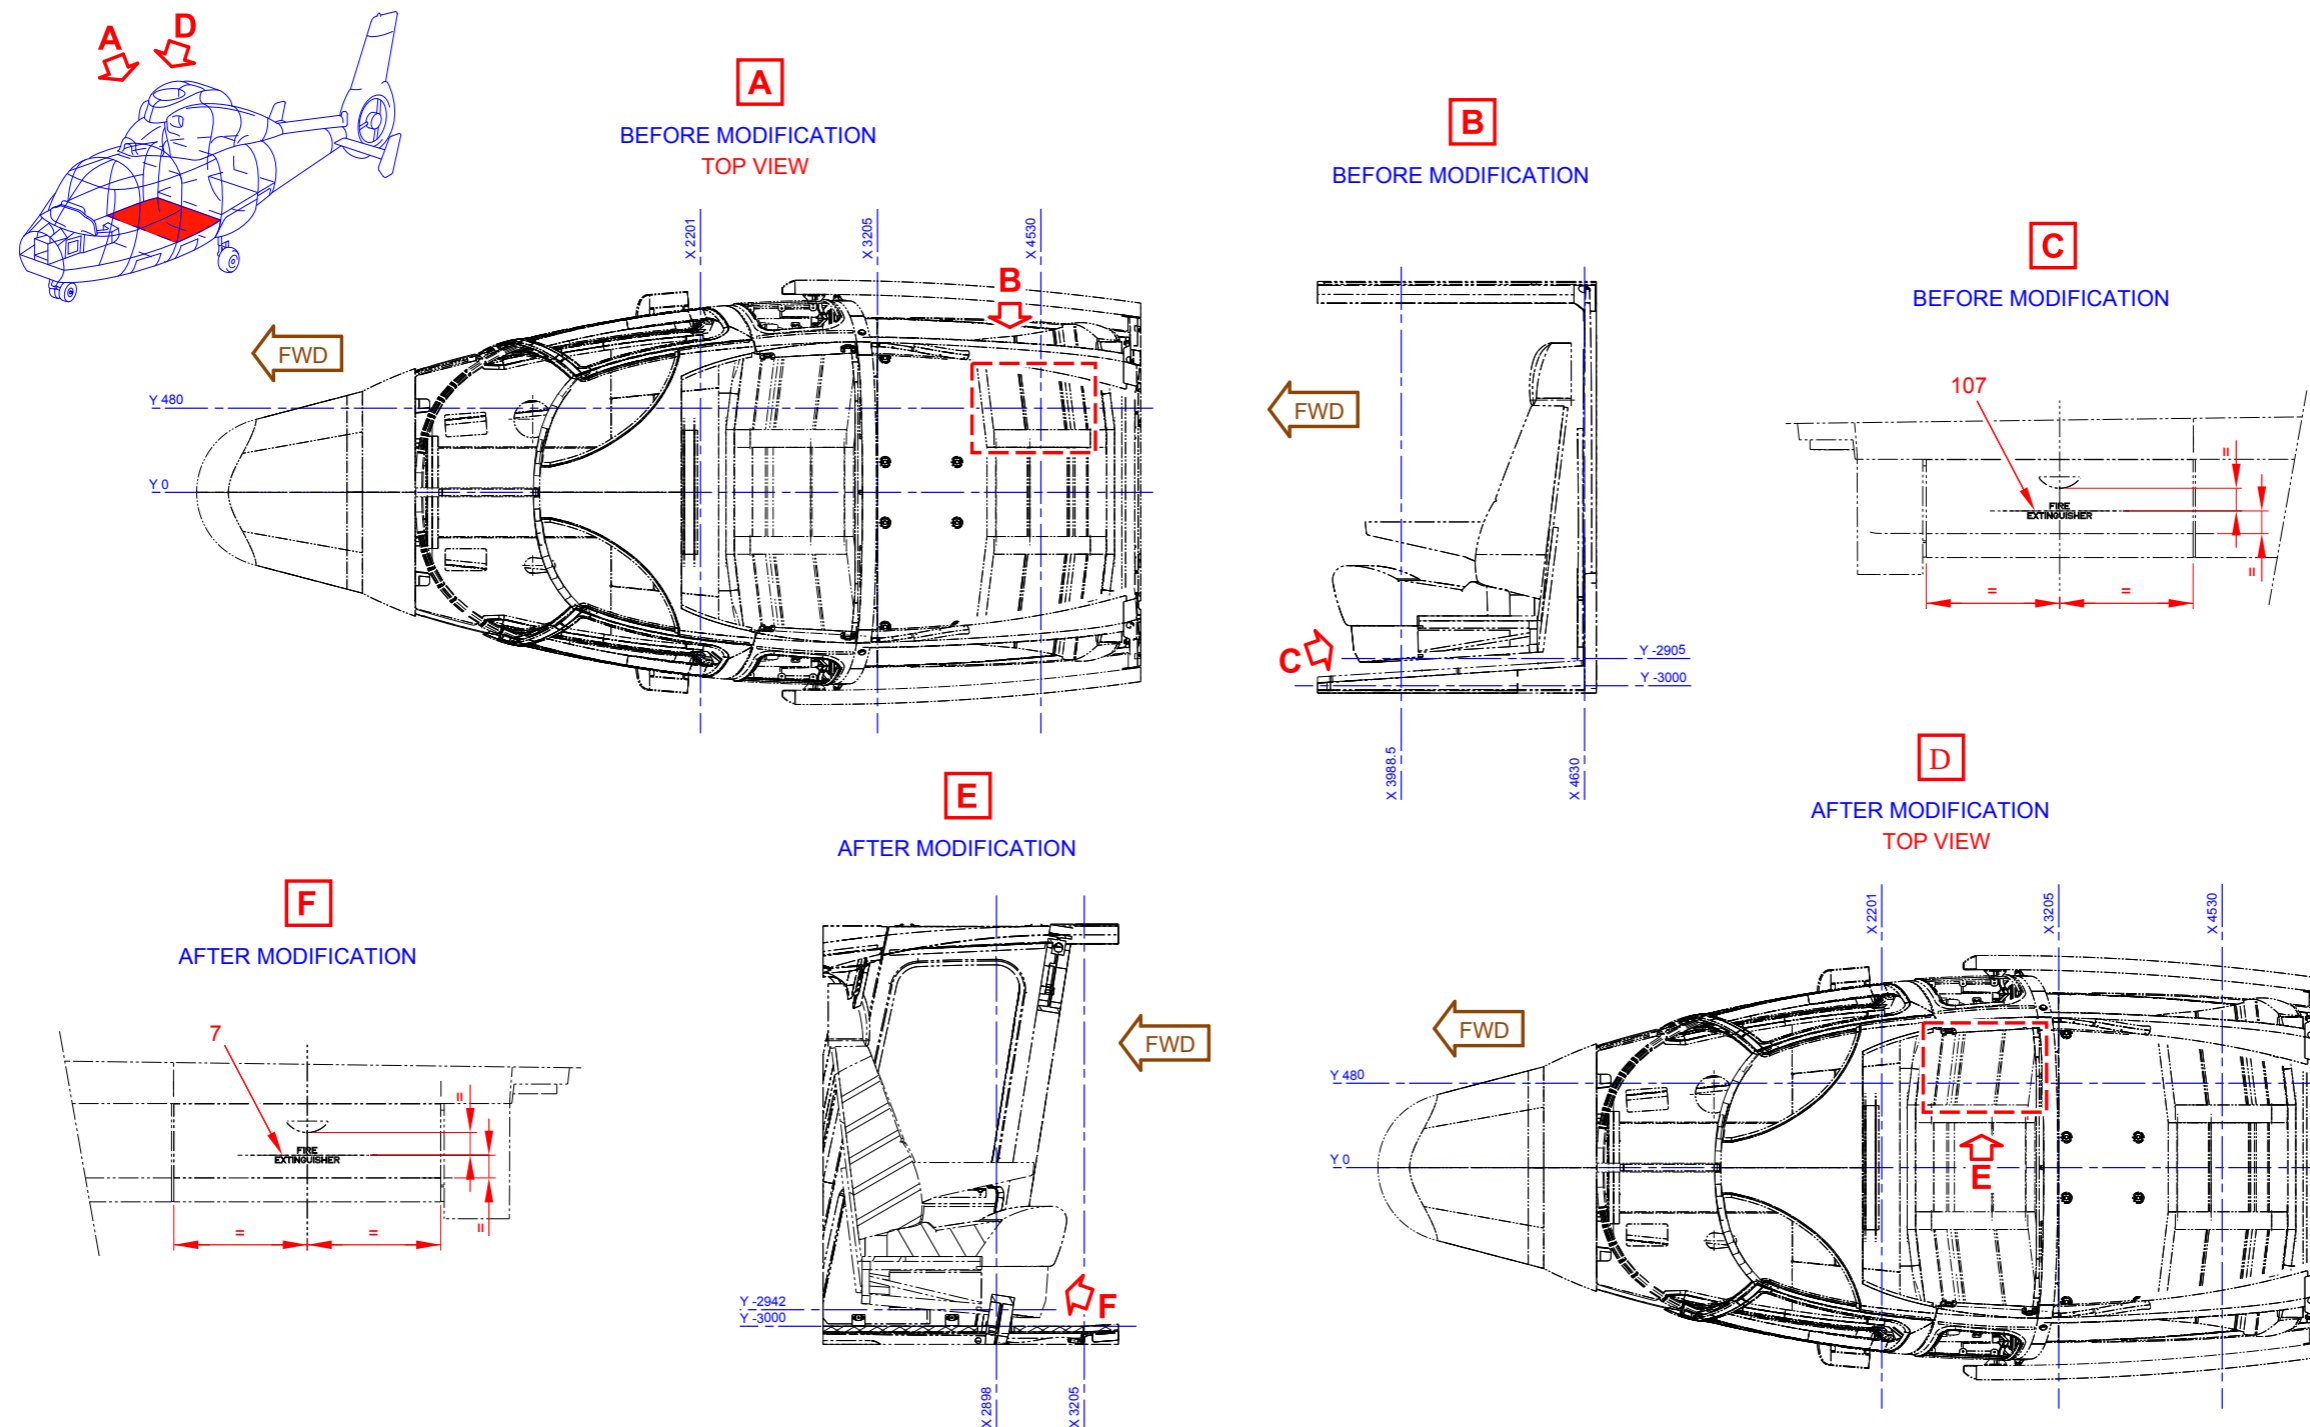

Figure 3
4.3. Procedure to move the label "FIRE EXTINGUISHER" (Figure 3)
- 4.3.2. Stick the "FIRE EXTINGUISHER" label LABEL "FIRE EXTINGUISHER" 365V87-4036-40 (7) on the right drawer of the front seat, refer to Detail F of (Figure 3).